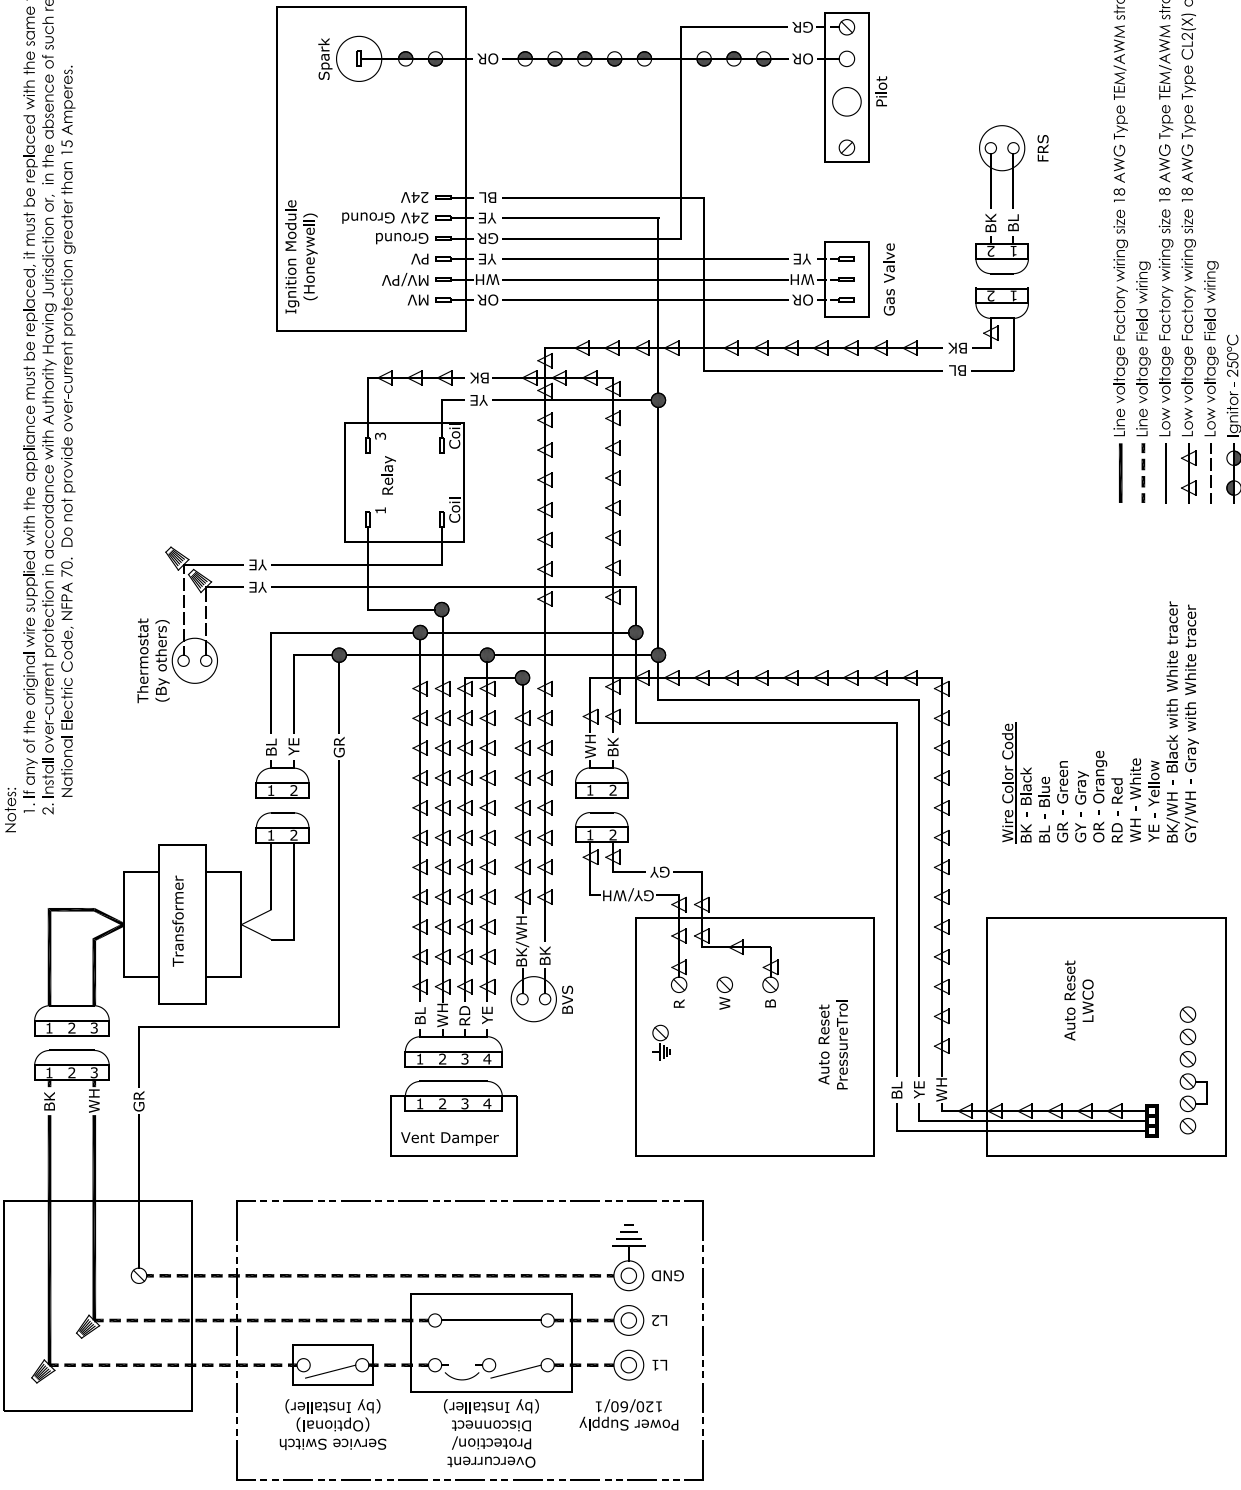

Figure 9-1: Wiring Diagram STMX075 through STMX299
3. Wire boiler. Boiler is rated for 120 VAC, 60 HZ, less than 12 A. A separate electrical circuit must be run from main electrical service with an over-current device/disconnect in the circuit. A service switch is recommended and may be required by some local jurisdictions. Connect to black and white wires and green ground screw. See Figures 9-1, 9-3, and 9-5.